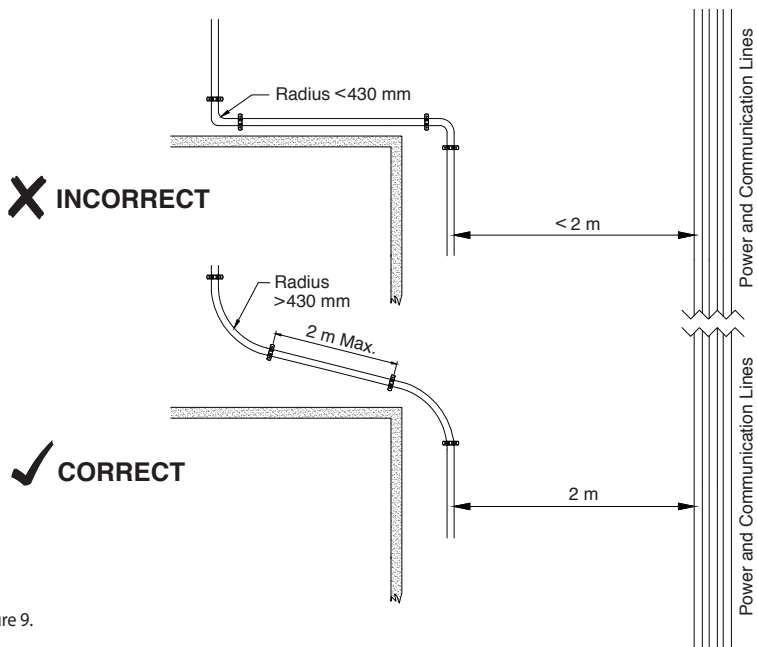

Figure 9.
- Parallel routing with other services should be avoided. If unavoidable, the minimum separation distance is 2 metres [Figure 9]
- The most direct path to ground is recommended. Avoid sharp bends [see Figure 9]